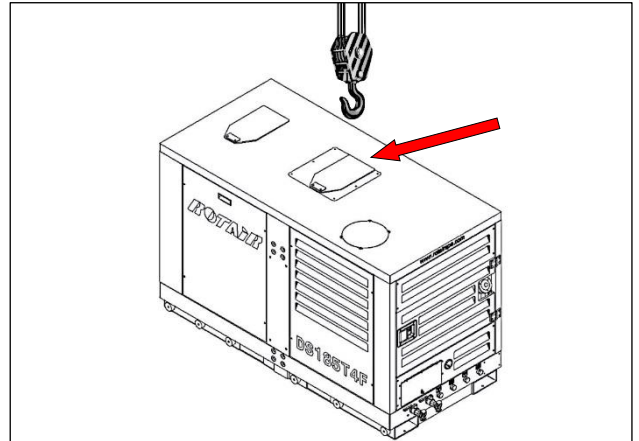

Figure 6.2-1 Lifting system of the machinery
- 3) Attach the hook of the lifting means to the hooking point of the compressor (Figure 6.2-1).